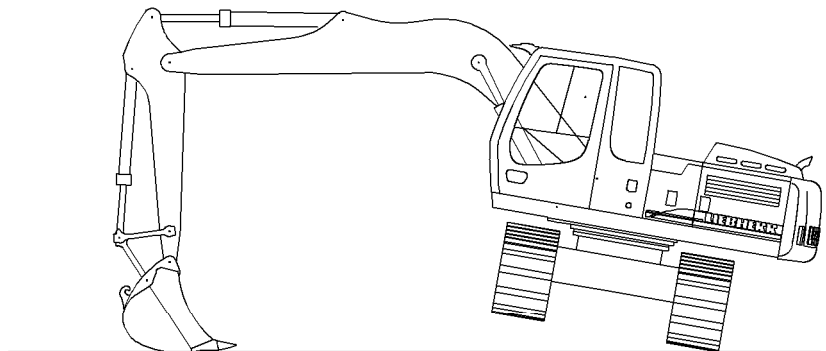

Fig. 5-58 Raising the machine
- ▶ By using the work equipment to support the machine at the side, one side of the chassis can be raised to clean the running gear (siehe Fig. 5-58).